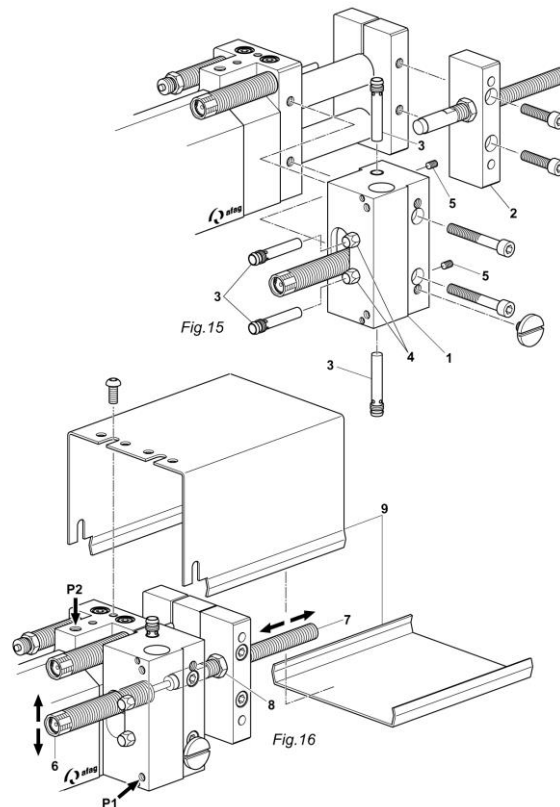

Fig. 13 Mounting variants with "narrow" or "wide" hand guard
1. Fit the intermediate stop module ZA 32 (Fig. 13, 1) and the stop rod module at the rear (Fig. 13, 2) to the LM 32.
2. Move initiators (Fig. 13, 3) to adjust their position.
3. Then secure initiators with initiator holder (Fig. 13, 4) or stud bolts (Fig. 13, 5).
- The shock absorber (Fig. 13, 6) moves to the upper position.
- The stop bar (Fig. 13, 7) moves to the left until it is limited by the shock absorber (Fig. 13, 6).
6. Loosen the lock nut (Fig. 13, 8) and adjust the intermediate position by screwing the stop rod (Fig. 13, 7) in or out.
7. Secure the stop bar with lock nut (Fig. 13, 8).
8. Mount the hand guard (Fig. 13, 9).